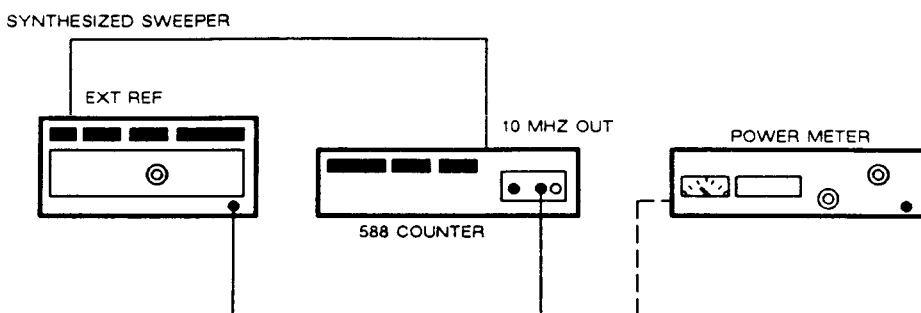

Figure 4-4. Band 2 Minimum and Maximum Frequency Test Setup
1. Connect equipment as shown in Figure 4-4.